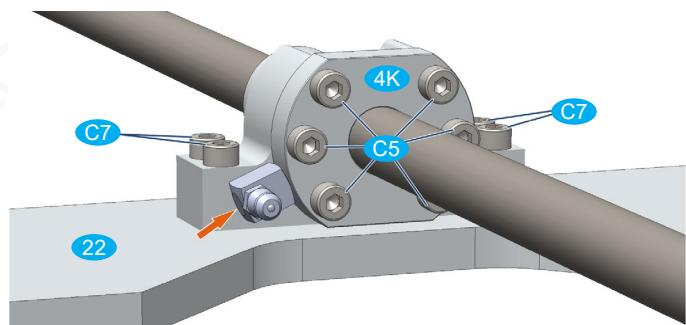

Fig. 23: Mounting flange bracket
- Tighten the fixing screws **C5** of the ball nut on the flange bracket X (see Figure 23). Screw tightening torque: 6 Nm
- Carefully tighten the fastening screws **C7** of the flange bracket X on the gantry beam (see Fig. 23).